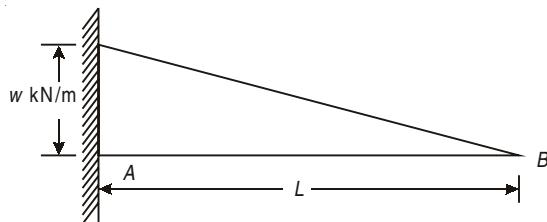

Fig. 7
24. A simply supported beam has a flexural rigidity of 24 MN/m^2 and is loaded as shown in Fig. 7. Determine deflection at mid point.